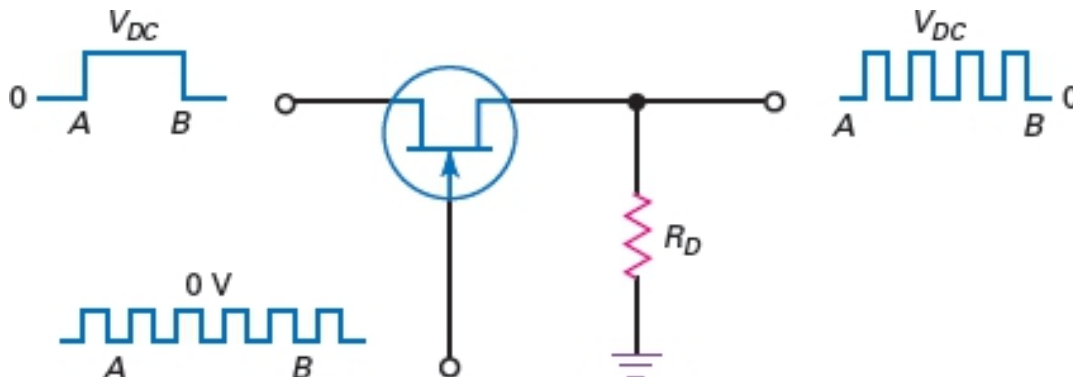

Figure-18 Chopper
- Figure-18 shows a JFET chopper. The gate voltage is a continuous square wave that continuously switches the JFET on and off. The input voltage is a rectangular pulse with a value of V_{DC} . Because of the square wave on the gate, the output is chopped (switched on and off), as shown.